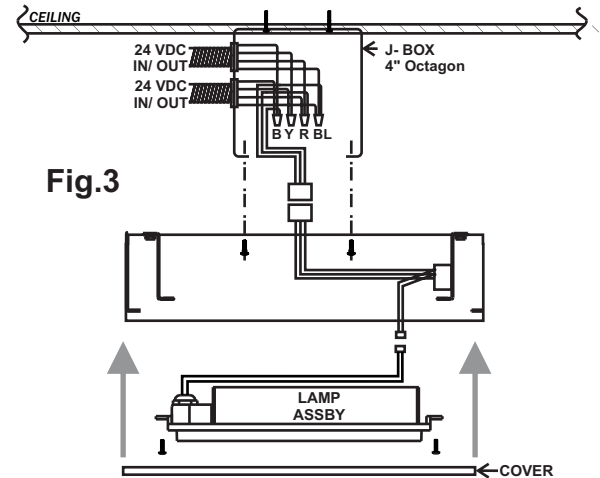

Fig.3
1. See Fig 3. Install standard 4" Octagon J-box centrally above installation point as shown and secure to ceiling using appropriate screw anchors.